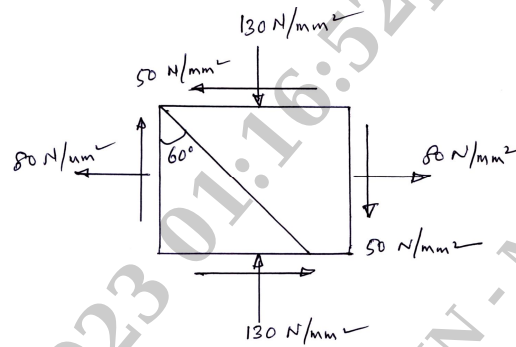

Fig.Q4(a)
- 4 a. A point in a machine is subjected to the stresses as shown in Fig.Q4(a). Draw the Mohr's circle and determine: